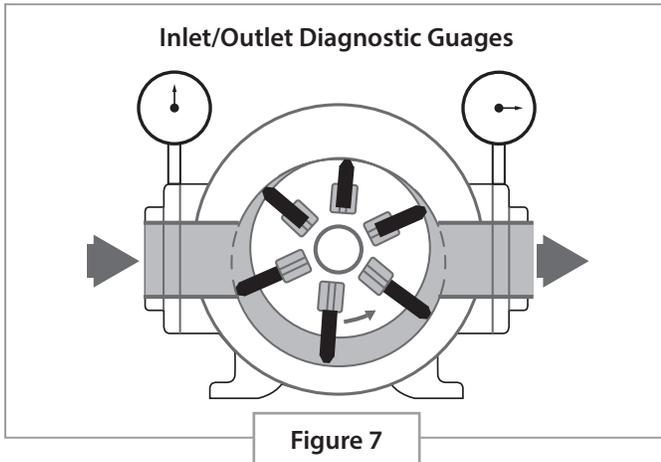

Figure 7
6. It is highly recommended that inlet and outlet gauges be installed for diagnostic use and for confirming differential pressure to adjust bypass pressure. Gauges may be installed directly on gauge ports on the pump. **Figure 7**. Good quality glycerin filled gauges, of at least 400 psi (27.5 bar) will yield the best results. Isolation valves may be used on the gauge stem.